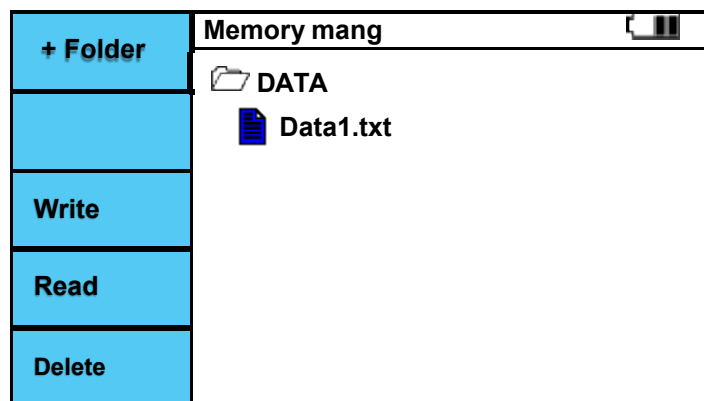

Figure 6.12.2 Memory manager Create File.
- VI. If a file has been created from computer: After measurement, short push on MEM and use the up and down buttons to select the file as shown in Figure 6.12.2.